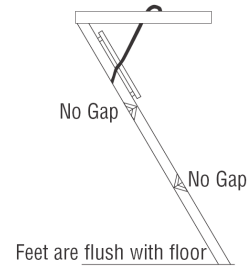

Figure 6
- Adjusted correctly, your attic ladder should look like Figure 6 below. No gaps in the section and both feet flat on the floor should be the result.